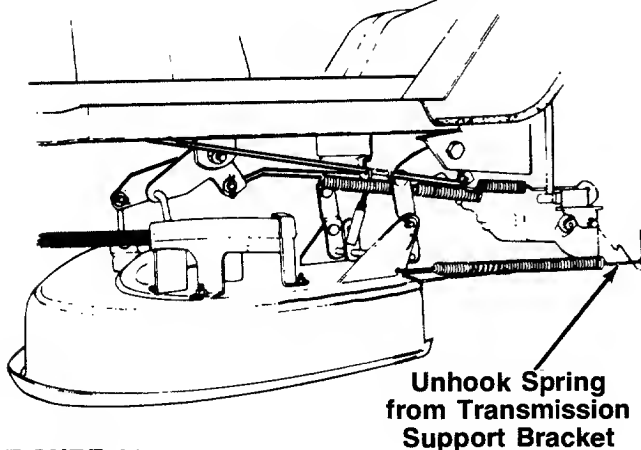

FIGURE 20.
5. Disconnect the spring from the left rear transmission support bracket. See figure 20.